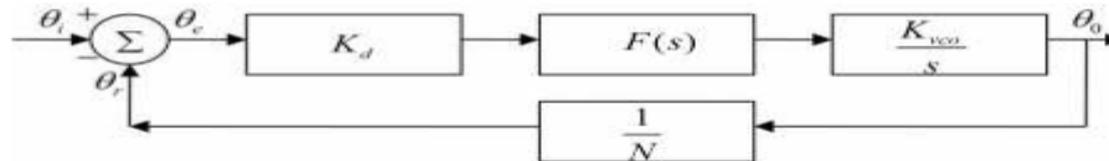

Figure 7.1 Mathematical model of PLL system
A linear control system model of the phase feedback loop of PLL in the locked state consists of phase detector gain (K_d), VCO gain (K_{vco} / s) and loop filter gain ($F(s)$) divided by the gain of the feedback counter modulus (N) is shown in the figure 7.1.